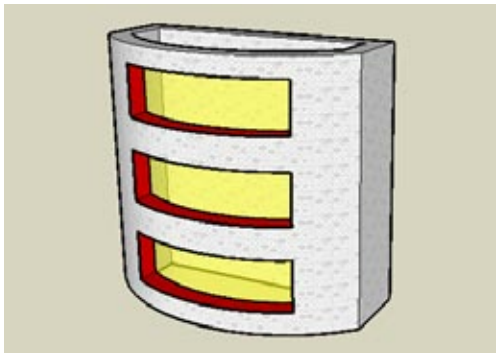

Figure 3-42
11. Close the component. Each window now has its own glass face, as shown in Figure 3-42.